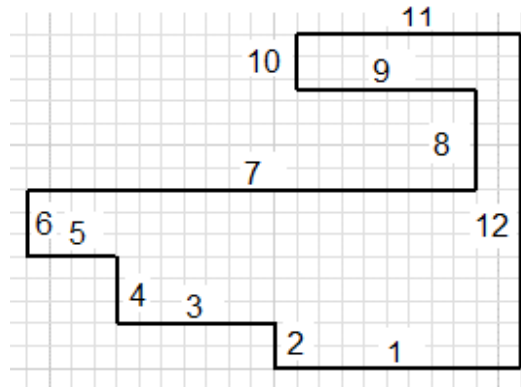

Figure 2-71 Sketch after drawing the lines
3. Move the cursor upward in the Graphics window. Next, enter **4** in the length input field, press TAB, and enter **90** in the angle input field; line 2 is drawn, as shown in Figure 2-71.
2. Select line 8 and then line 9, refer to Figure 2-71; a fillet is created between these lines and the radius of the fillet is displayed in the sketch.
In Figures 2-71 and 2-72, the display of axes and grids have been turned off for a better visibility of the lines of the sketch.